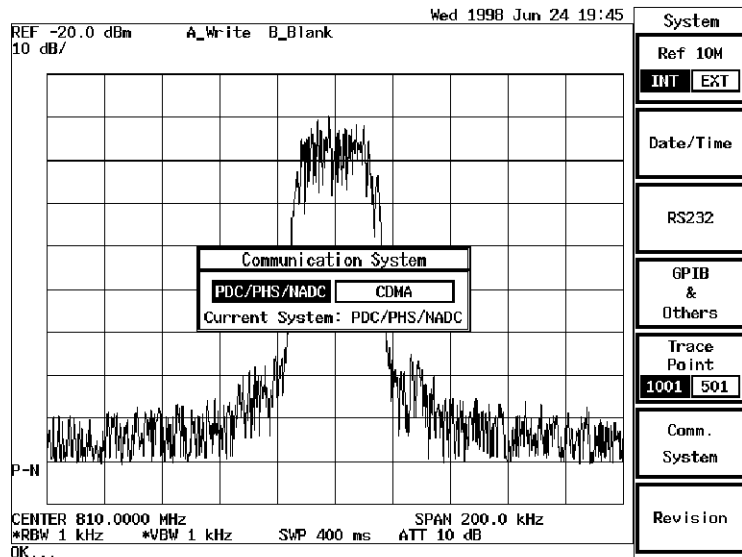

Figure 2-5 Dialog box
1. Press **LCL** then *Comm.System* to display the dialog box in Figure 2-5.